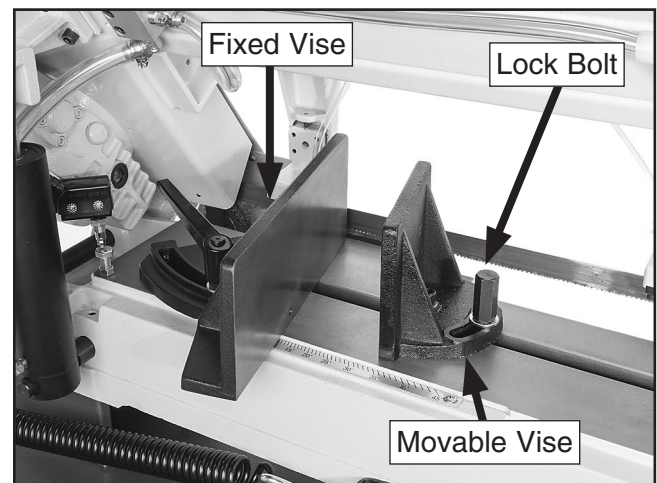

Figure 38. Movable vise positioned to match angle of fixed vise jaw.
3. Loosen lock bolt shown in **Figure 38** on movable vise so jaw can match angle of workpiece and fixed jaw.